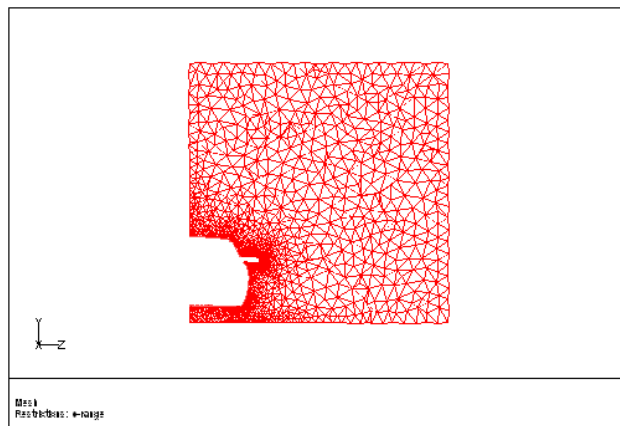

Figure 2.4: Slide of Cells at  $X = -0.37$
- i. Display the mesh on a slide through the mirror and the car ( $x = -0.37$ ). See Figure 2.4.